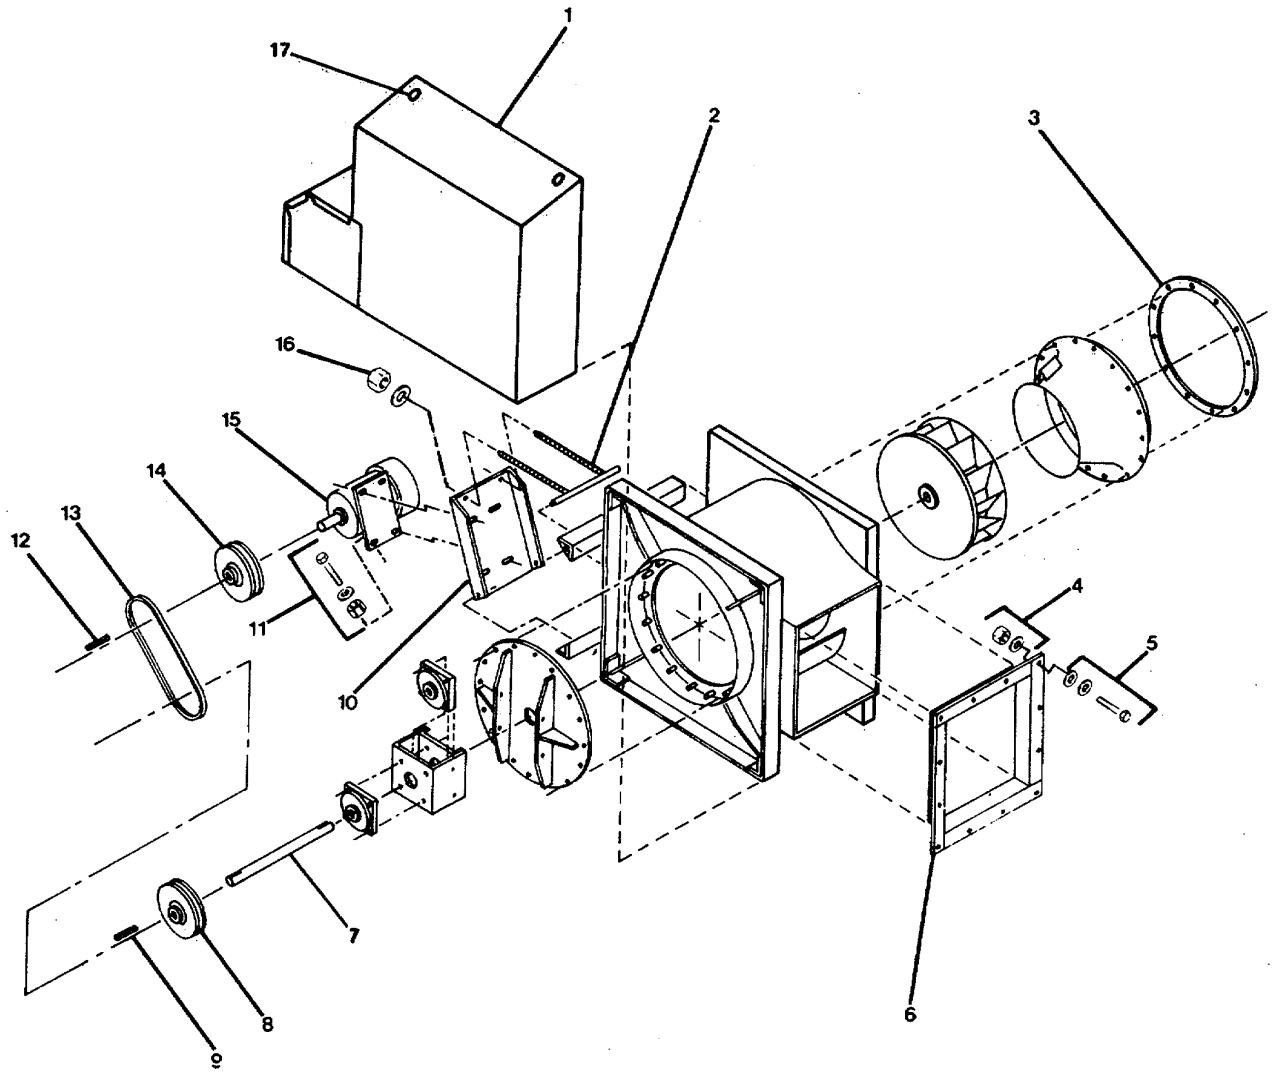
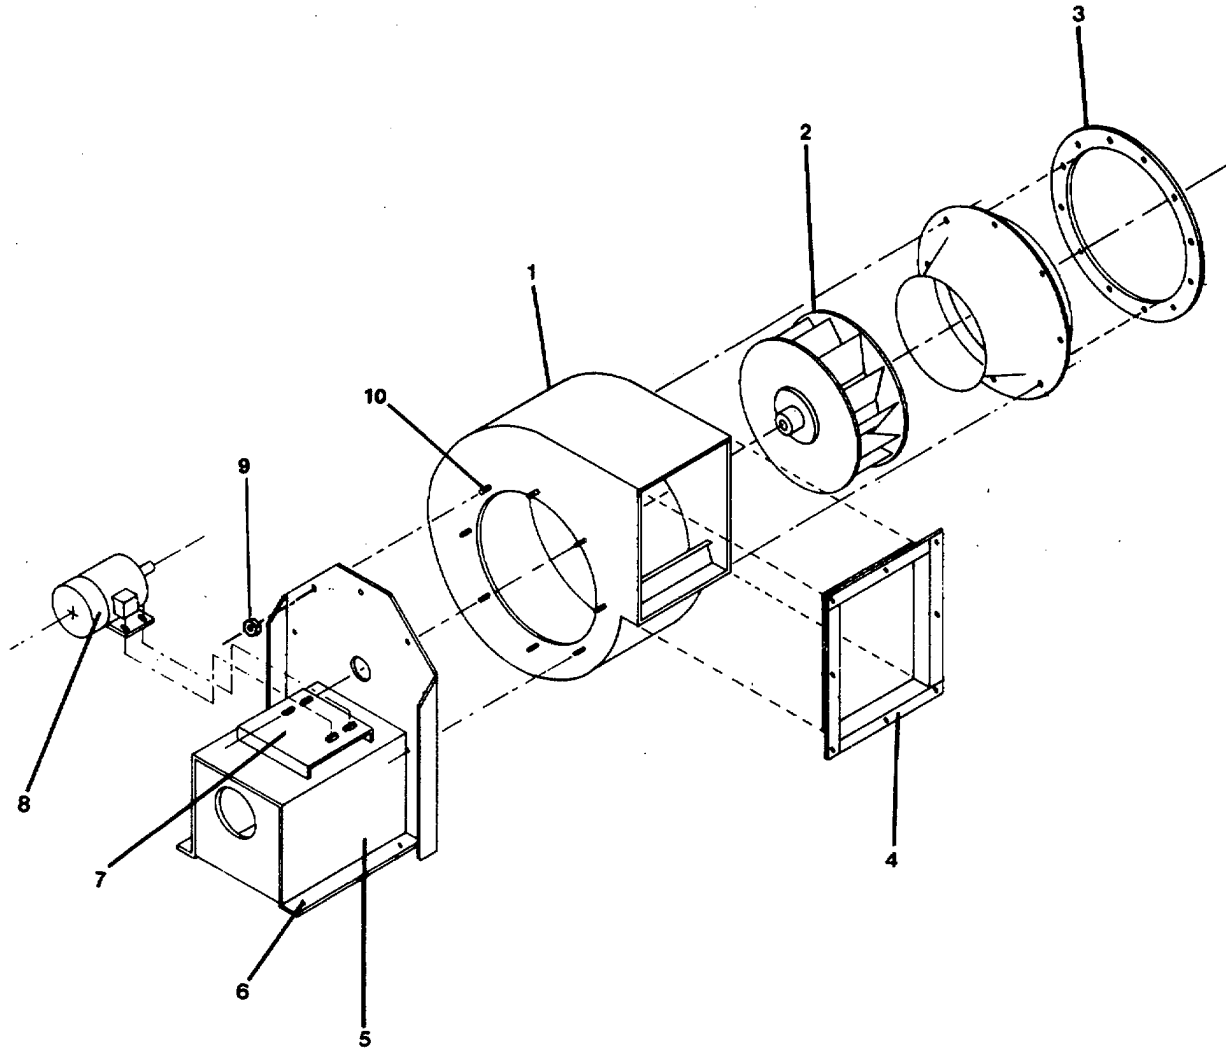

Figure 2-21. Ventilating Fan (Exhaust Fans #4 and #6).
Figure 2-22. Ventilating Fan (Exhaust Fan #7).
- 1 Position motor (15) on base plate (10) and install mounting bolt, nut and washer assemblies (11). Do not secure bolts until motor sheave (14) is installed and aligned.
- 2 Install key (12) and pulley (14) onto motor shaft with a hydraulic press.
- 3 Align motor pulley (14) with fan pulley (8).
- 4 Secure bolt, nut, and washer assemblies (11) firmly.
- 5 Install V-belt (13) (REPAIR, step b. above).
- (1) Remove electric motor from fan (REPAIR, step d., above).
- (2) The procedures for replacing motor bearings are the same as those for Exhaust Fan #3. Refer to REPAIR, steps b. through d., paragraph 2-29.
- (3) Install motor (REPAIR, step d., above).
- (4) Connect electrical wiring to proper terminals on motor (15, FIGURE 2-21).
- a. Position fan and connect outlet flange (6) to ducting with nut, bolt, and washer assemblies (4, 5).
- b. Connect inlet flange (3) to ducting.
- c. Connect electrical wiring to proper terminals on motor (15).
- d. Install weather cover (1) with screws (17).
- (1) Turn electrical power ON.
- (2) Start and run fan to check for proper operation.
- (3) Remove "Out of Service" tag from circuit.
**2-32. Repair Fan, Ventilating (Exhaust Fan #7)..(FIGURE 2-22)**